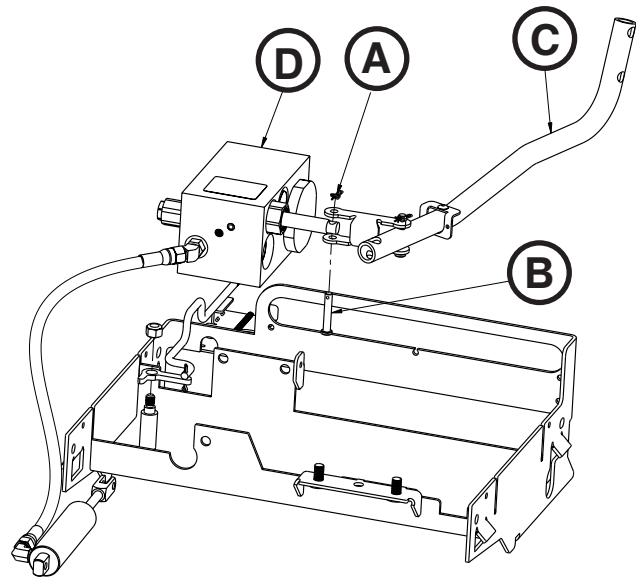
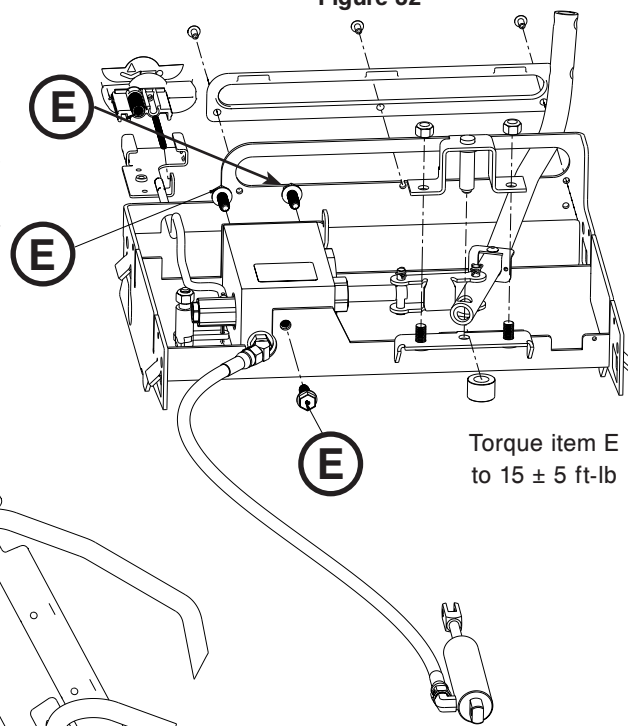

Figure 32
Figure 33
1. Using needle nose pliers, remove the rue ring cotter (A) and clevis pin (B) that connect the gatch pump ram to the gatch pump handle (C) (Figure 32).
2. Using a 1/2" socket with a 3/8" drive extension and a 3/8" drive ratchet, remove the three hex washer head screws (E) (Figure 33) that hold the gatch valve body assembly (D) (Figure 32) to the gatch weldment and the lock nut that holds the release link. Carefully lower the valve body out of the weldment. When reinstalling, torque the screws to  $15 \pm 5$  ft-lb.